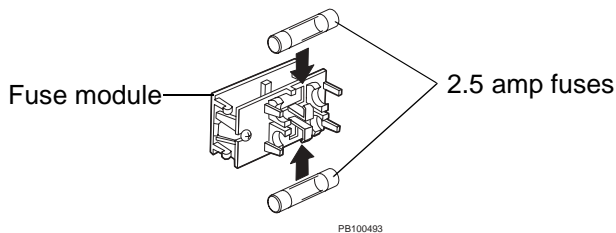

Figure 2-5 Installing the Fuses
3. Install the 2.5 amp fuses in the fuse module (Figure 2-5).